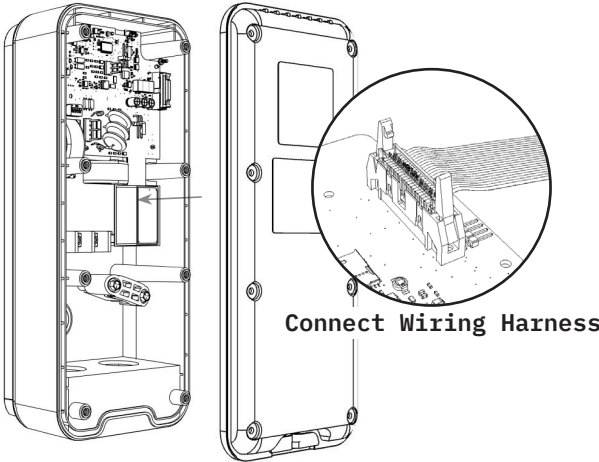

Figure 3-14 Securing the EZ-Swap Faceplate
Step 1: Re-connect the wiring harness that connects the EZ-Swap Faceplate to the printed circuit board attached to the rear charger enclosure as shown in **Figure 3-14**.